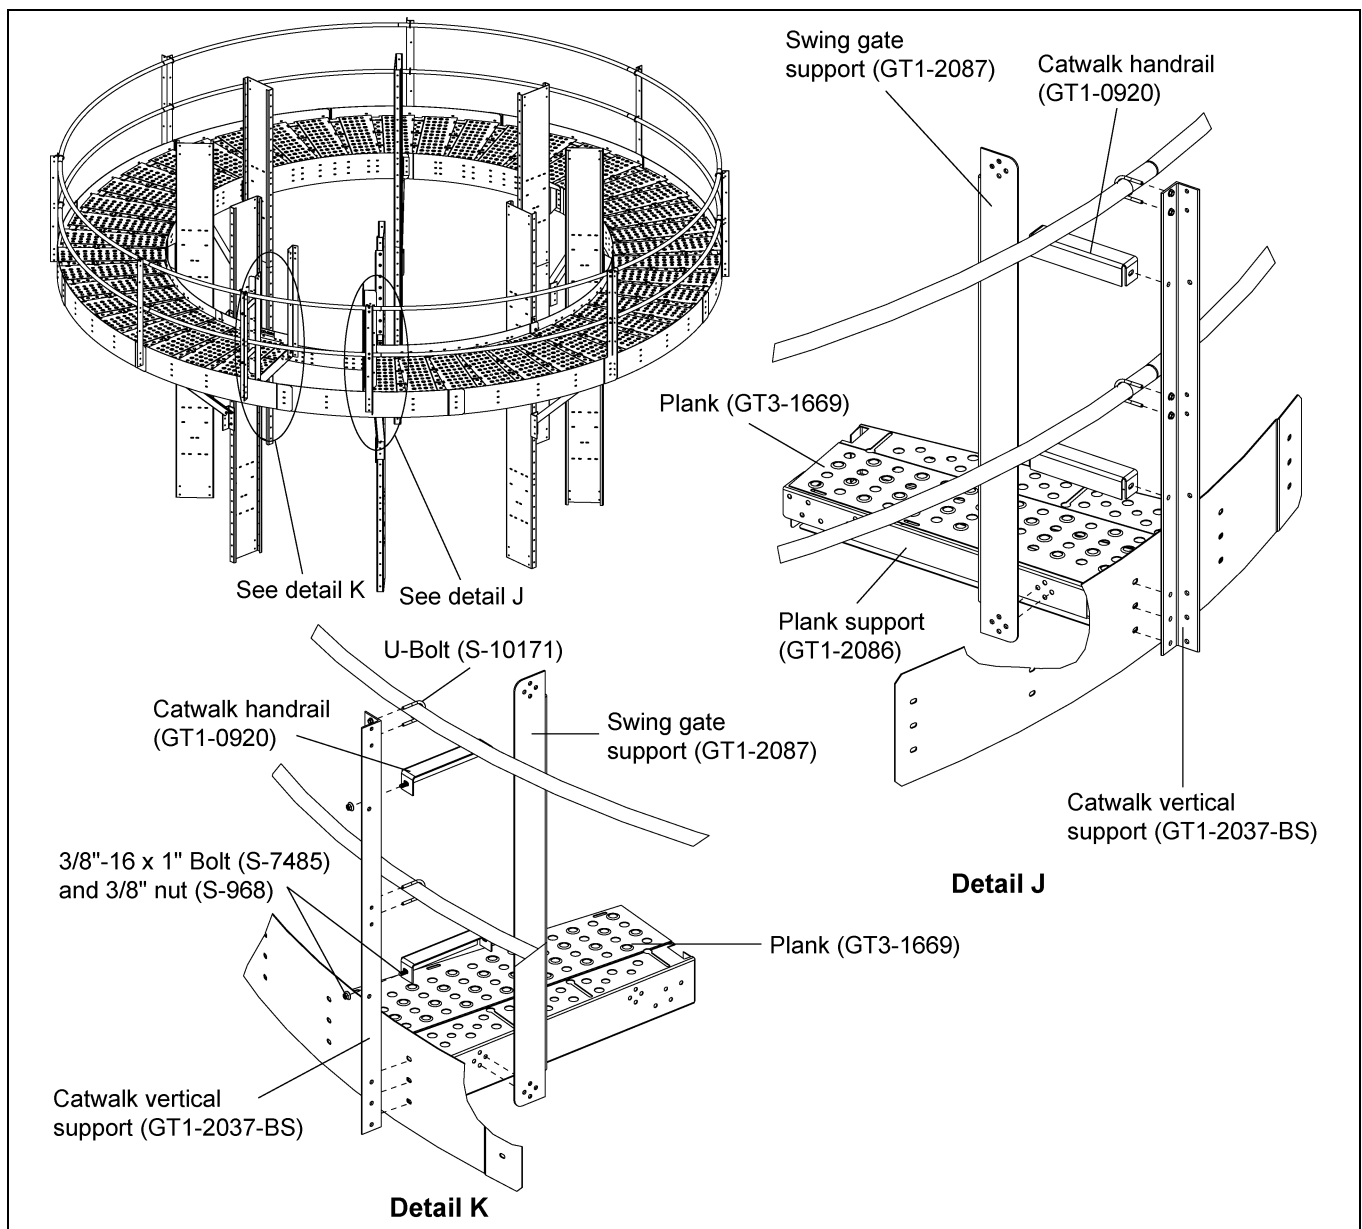

Figure 4W
1. Install the swing gate support (GT1-2087) with the plank support (GT1-2086) using 3/8"-16 x 1" JS grade 8 or grade 8.2 bolts (S-7485) and 3/8"-16 ZN grade 5 nuts (S-968). (See detail J in Figure 4W.)
2. Install two (2) catwalk handrails (GT1-0920) between the swing gate support (GT1-2087) and the catwalk vertical support (GT1-2037-BS) using 3/8"-16 x 1" JS grade 8 or grade 8.2 bolts (S-7485) and 3/8"-16 ZN grade 5 nuts (S-968). (See detail J in Figure 4W.)
3. On the other side, install the swing gate support (GT1-2087) to the plank (GT3-1669) using 3/8"-16 x 1" JS grade 8 or grade 8.2 bolts (S-7485) and 3/8"-16 ZN grade 5 nuts (S-968). (See detail K in Figure 4W.)
4. Install two (2) catwalk handrails (GT1-0920) between the swing gate support (GT1-2087) and the catwalk vertical support (GT1-2037-BS) using 3/8"-16 x 1" JS grade 8 or grade 8.2 bolts (S-7485) and 3/8"-16 ZN grade 5 nuts (S-968). (See detail K in Figure 4W.)